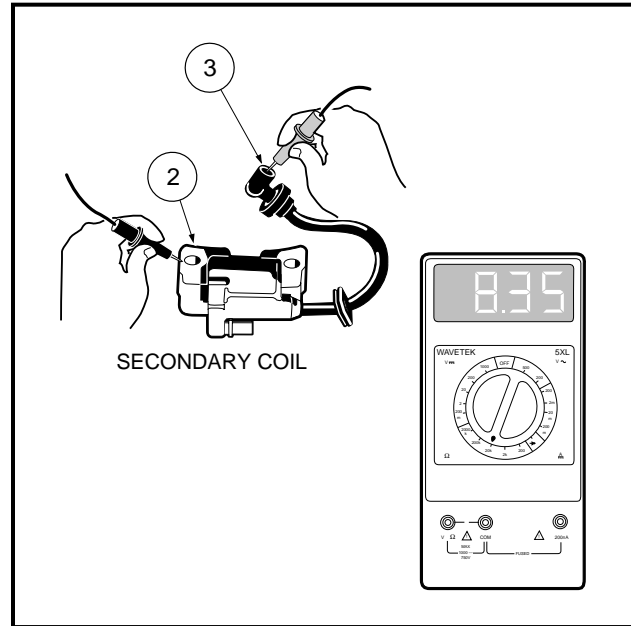

Figure 11-40 Test Secondary Coil
- 3.2. If the resistance is not between 6.0 - 11.0 k Ω (ohms), remove the coil from the engine. **See Ignition Coil Removal, Section 12 – Electrical Components, Page 12-23.** Retest with a multimeter set on 200 Ω (ohms). Place the black (–) probe of the meter on the core (2) and place the red (+) probe into the end of the spark plug wire (3) (**Figure 11-40, Page 11-31**). If the resistance is still not between 6.0 - 11.0 k Ω (ohms), replace the coil.